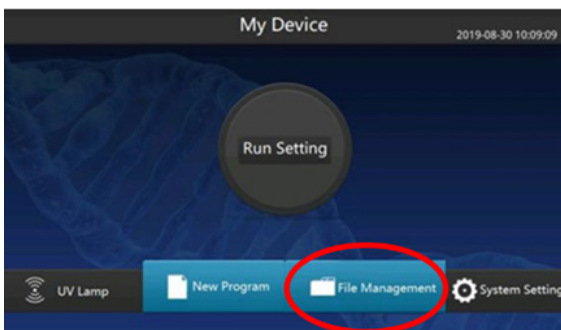

Figure 9: Main control interface of the CleanXtract 96 with File Management indicated in the red circle.
11. Press “File Management” as indicated in the red circle in figure 9.